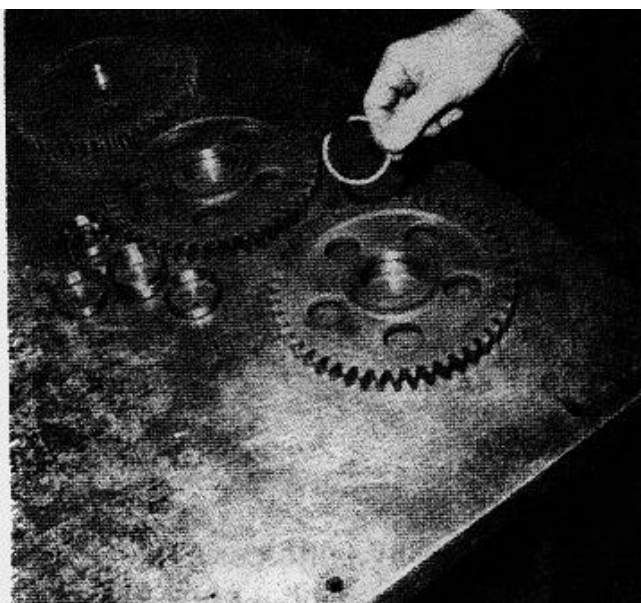

FIGURE 8-18.
w. Remove the snap ring with a screwdriver or a small pry bar and inspect for chipping or wear. Replace if necessary (see figure 8-18).